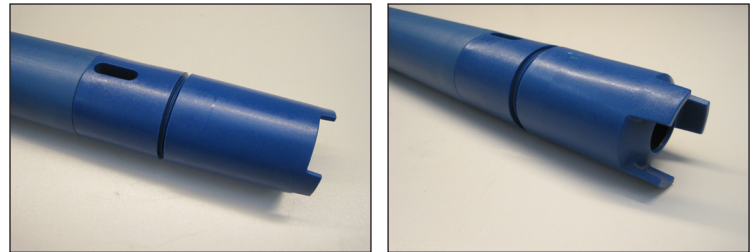
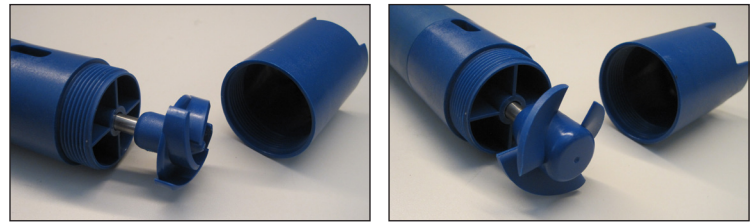

Figure 1 A & B
Figure 2 A & B
- Cover, Impeller, & Diffuser Removal** - Unthread the diffuser cover (item 19 or 20). Turn it clockwise (left-hand thread). *See Figure 1 A & B.* Unthread the impeller (item 18) turning it counter clockwise (right hand thread) using your hand while holding the coupling insert and coupling (items 1 & 2) with the other hand. *See Figure 2 A & B.* Note: If the shaft unthreads from the coupling, use a pliers to hold the bottom of the shaft just above the impeller. *See figures 3 A & B.* For longer 40" to 72" pump lengths, two people may be required to hold the shaft and unthread the impeller.